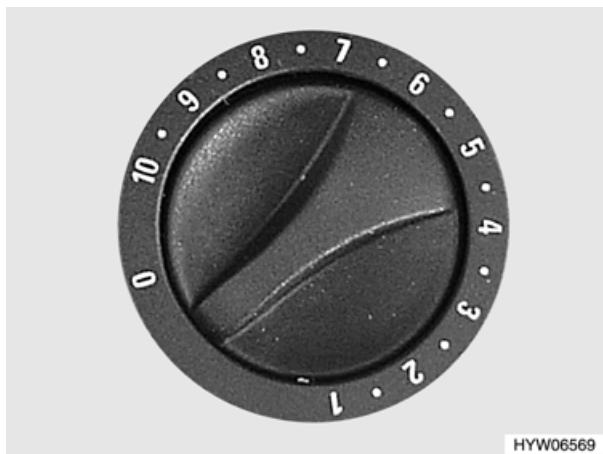

Fig. 69 Heater control knob
- Turn control knob (Fig. 69) on the heater to the required position and press it firmly.
- Turn the control knob (Fig. 69) on the heater to "0". The automatic ignition is switched off simultaneously.